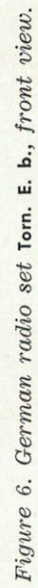
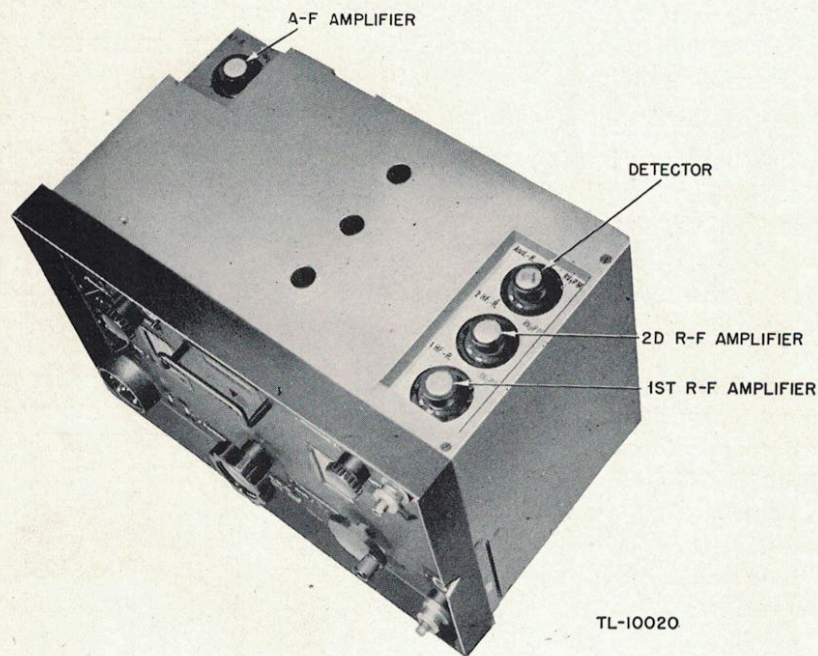

Figure 6. German radio set Torn. E. b., front view.
Figure 7. German radio set Torn. E. b., removed from case, top view.
a. General. After the set is installed it is put in operation as follows (see fig. 6 for location of controls):
- (1) Turn the **Aus-Ein** (off-on) switch on **Ein** (on).
- (2) Test the battery voltages; by reading the voltmeter on the set the pointer should be in the red section of the scale for correct filament voltage. Upon pressing the button on the voltmeter, the plate voltage is read and it should be in the blue section of the scale.
(2) Check all cords, plugs, and connections. Much of the trouble encountered is caused by defective cording and connections.
(3) Replace the tubes in order starting with the a-f amplifier and work to the r-f amplifier. To change tubes it is necessary to remove the set from the apparatus case. To remove the set from the apparatus case, loosen the three retaining screws which are on the front panel of the set (fig. 6). Figure 7 shows the set removed from the case, and the positions of all the tubes.